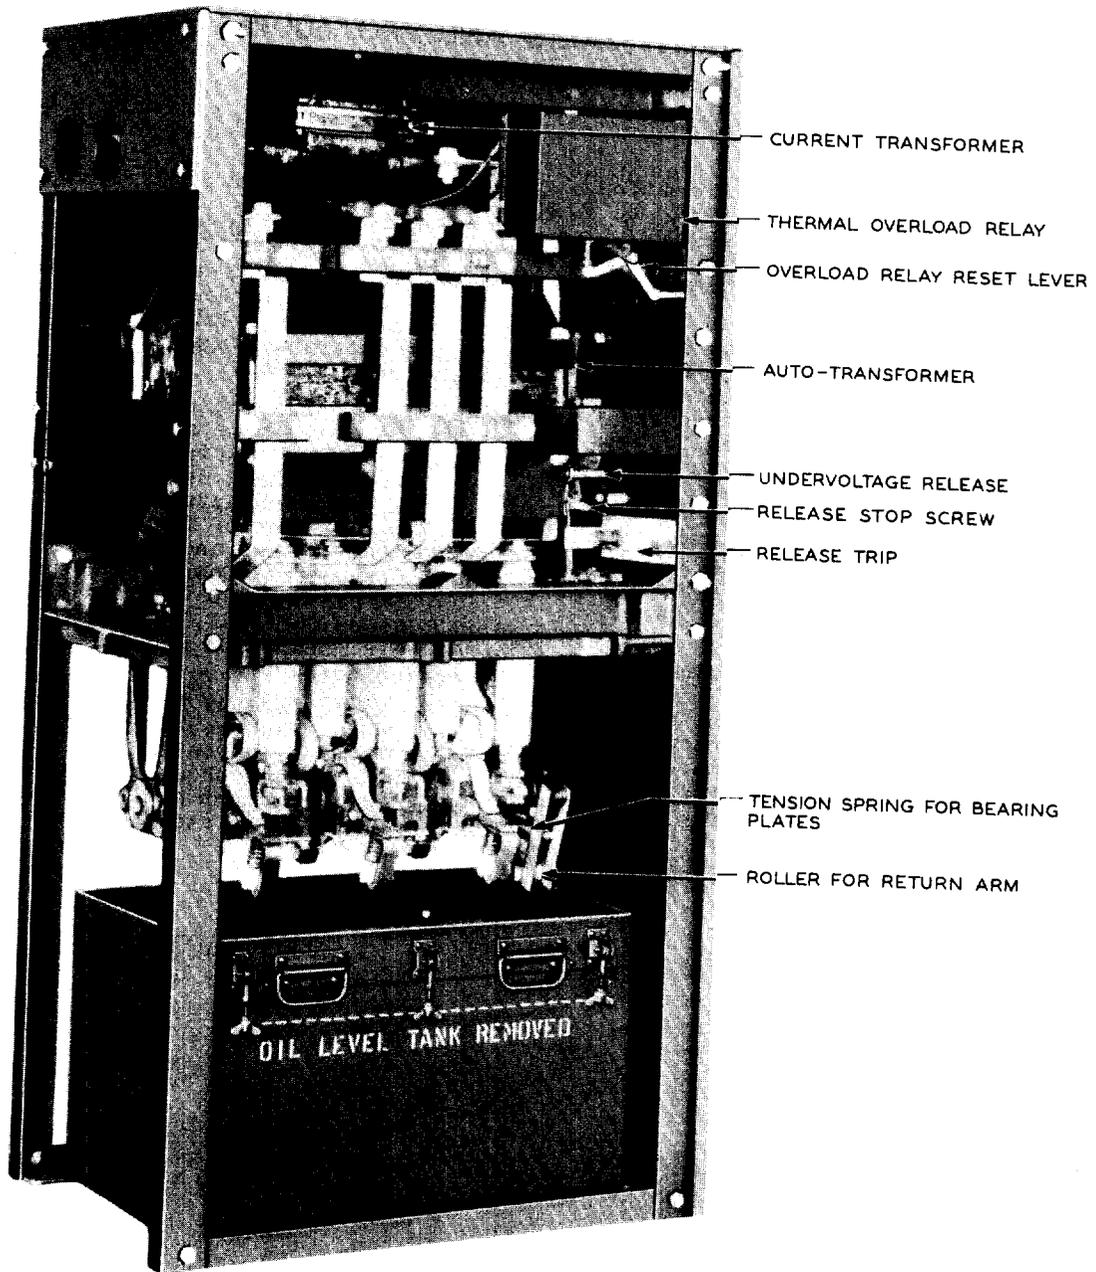

Fig. 1 - KS-5310 Manual-type AC Starter (Form K22 with Two Sides and Oil Tank Removed)
3.13 To replace a current transformer on the K22 starter shown in Fig. 1, be sure the ac service is disconnected ahead of the starter. Note the position of the connections on the transformer and remove them, being careful not to drop any of the washers or nuts. The transformers may then be released individually by removing the nut from the transformer bracket. Replace in the reverse order.
4. To revise titles of Fig. 1, 6, 7, 11, and 12.